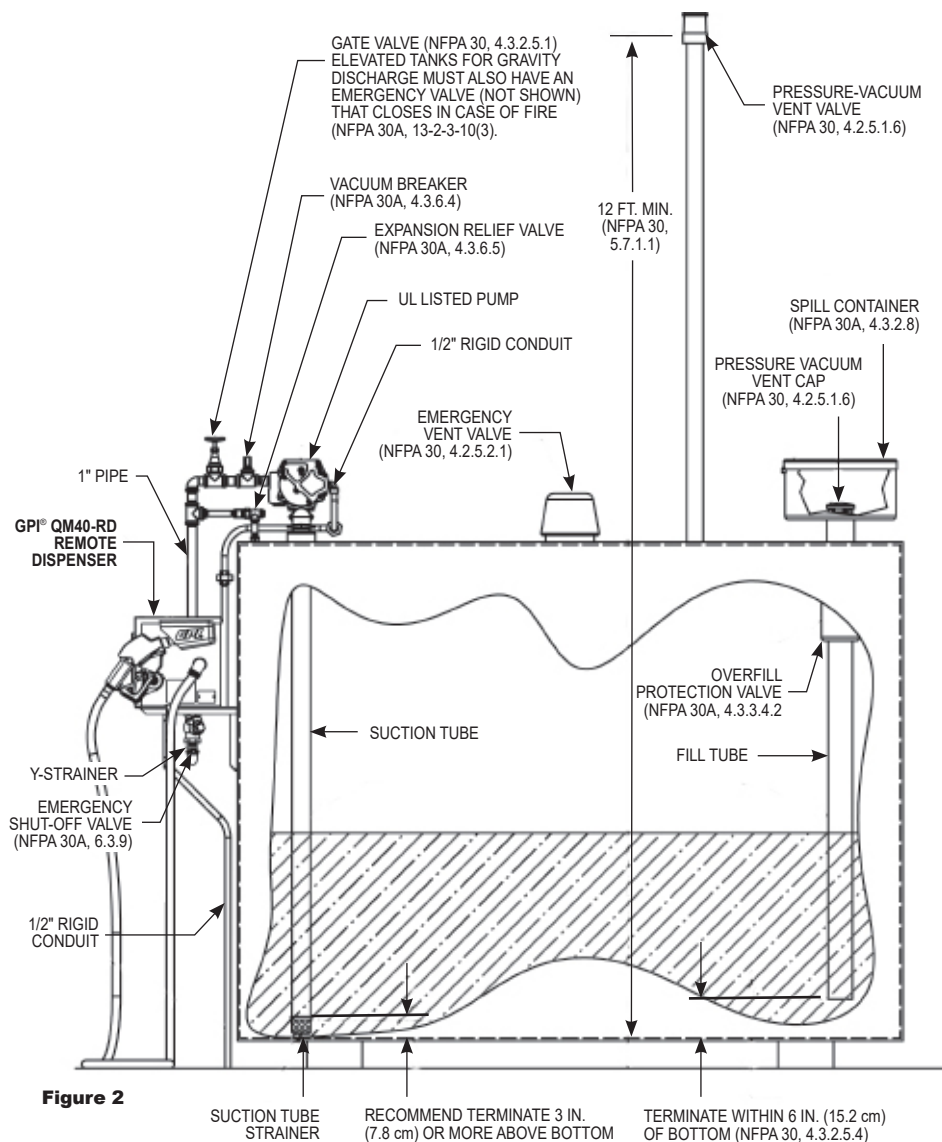

Figure 2
NOTE: When used with an above-ground storage tank, a UL Listed emergency shut-off (shear) valve with a fusible link must be installed below the dispenser (see Figure 2).
6. Install piping, valves and other required components between pump and emergency shut-off valve (see Figure 2). The piping is not intended to support the dispenser or pump in any manner.